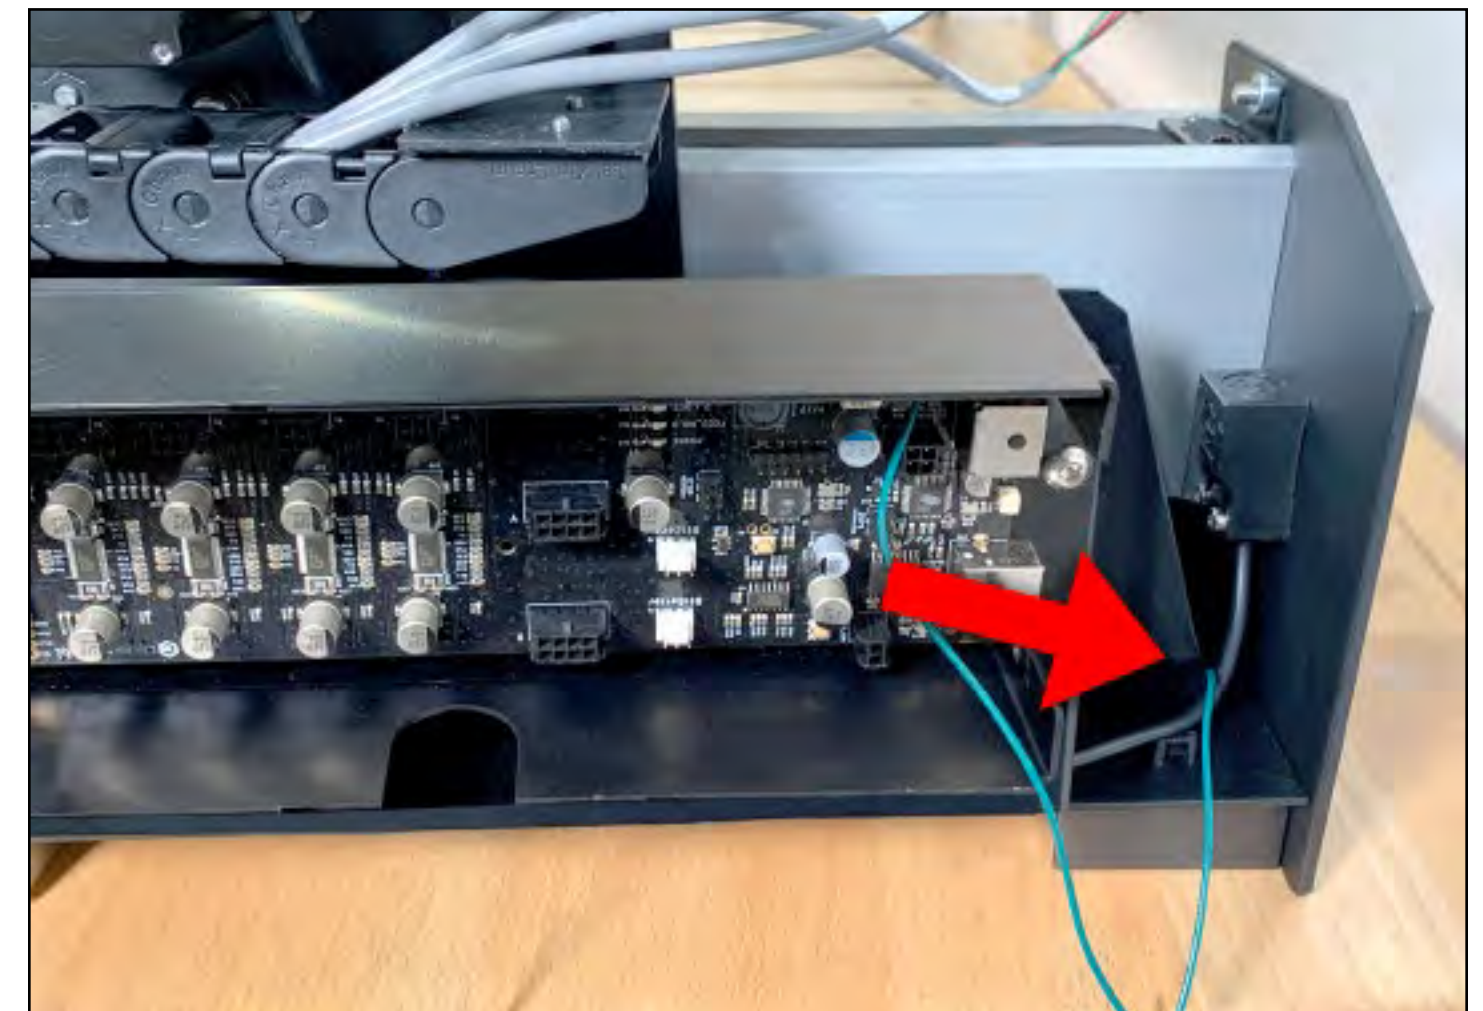

Figure 9-5
5. Use the four (4) thumbscrews to attach the controller cover. See **Fig. 9-5**.